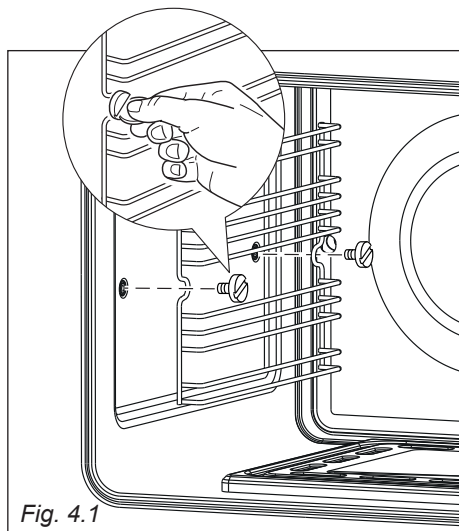

Fig. 4.1
- Assemble the wire racks to the oven walls using the 2 screws (fig. 4.1).